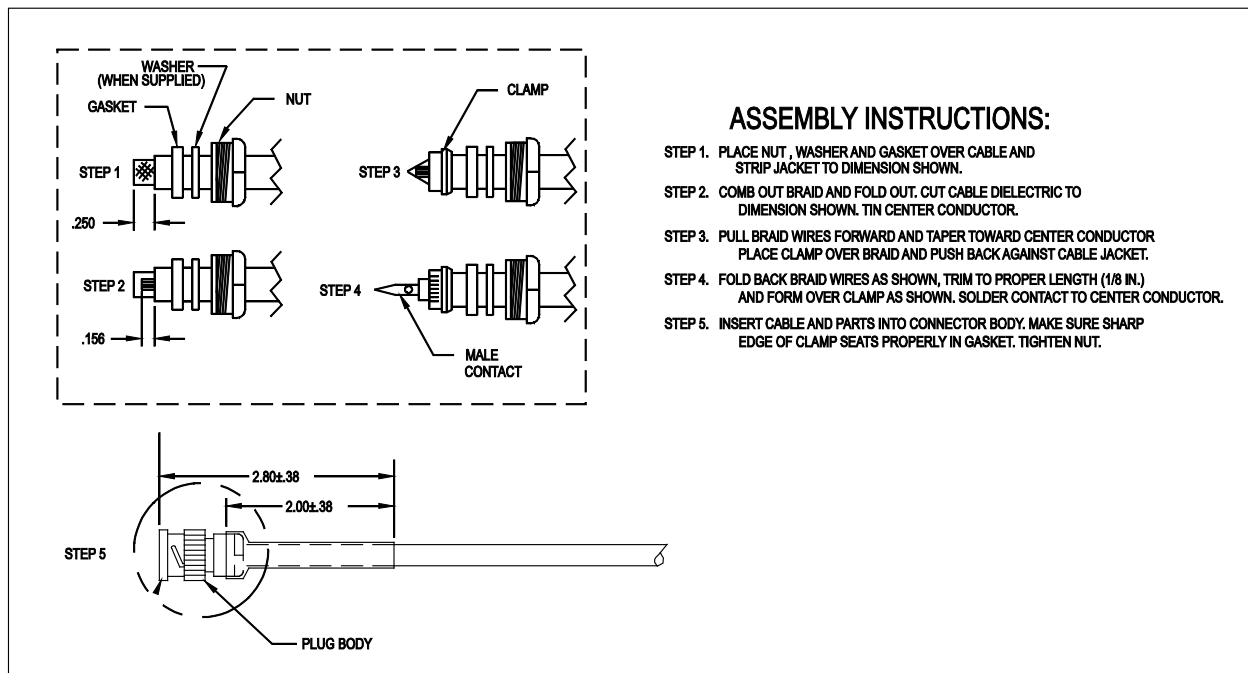

Figure 3. BNC Connector Installation
9. Do not trim the antenna cable before you attach the BNC connector to the antenna cable since shorter antenna cable lengths mean less signal loss, and this translates to an increased effective radiated power by the antenna, which may then exceed regulatory specifications. Figure 3 shows how to attach the BNC connector to the antenna cable.
5. If you wish, you may trim the antenna cable before you attach the BNC connector to the antenna cable. The length of the antenna cable will not affect the operation of the UHF data link, which will remain within regulatory specifications, although shorter antenna cable lengths mean less signal loss, and this translates to an increased effective radiated power by the antenna. The BNC connector is attached as for the VHF antenna cable as shown in Figure 3.